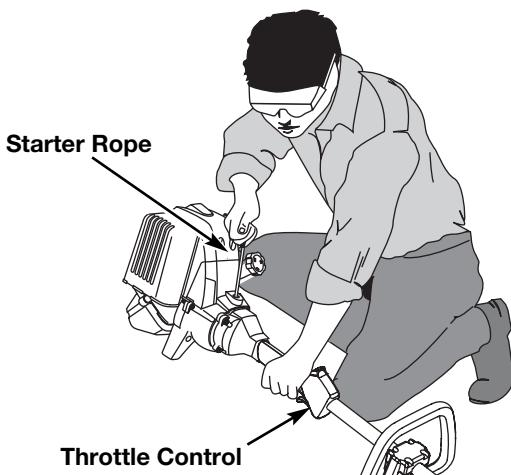

Fig. 11
**WARNING:** Avoid accidental starting. Make sure you are in the starting position when pulling the starter rope (Fig. 11). To avoid serious injury, the operator and unit must be in a stable position while starting.
5. With the unit in the starting position, **do not squeeze the throttle control** (Fig. 11). Pull the starter rope out a short distance, until you feel some resistance. This is usually around 2-4 inches. Then pull the rope smoothly and briskly. Repeat this 5 times. The engine should start.